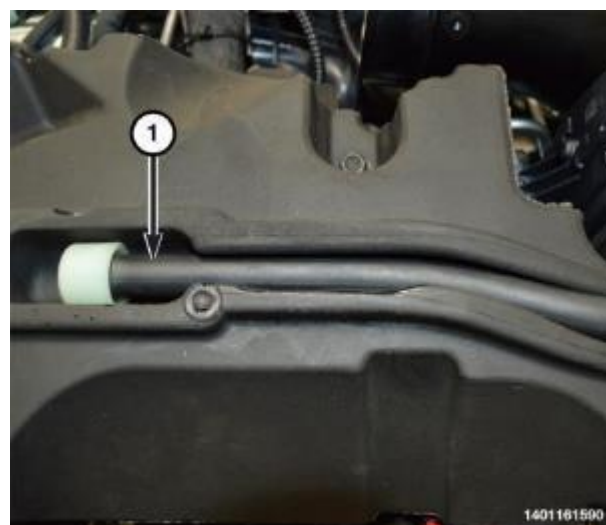

Figure 65 – Left Bank Fuel Rail Cover
115. Install the vent hose to the left fuel rail cover (1) (Figure 65).